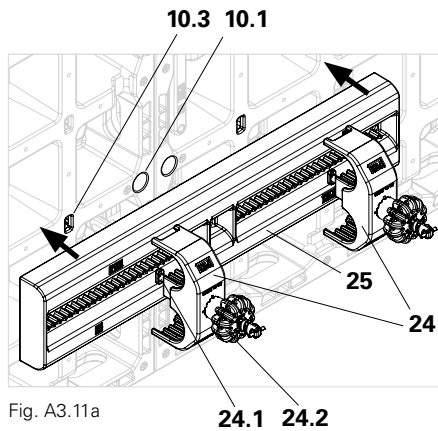

Fig. A3.11a
1. Position two DUO tube holders (**24**) onto a DUO 62 compensation waler (**25**). (Fig. A3.11a)
3. Tighten the DUO tube holder (**24**) with the DW 15 grip (**24.2**). (Fig. A3.11a)